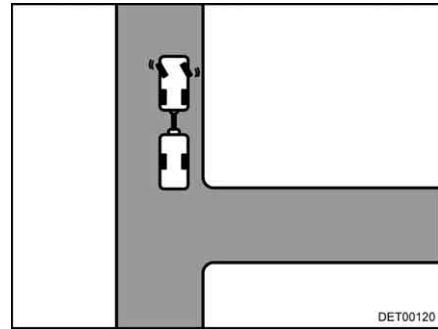

Fig. 17 Steer to the left
- Steer the stationary towing vehicle and trailer to the left (Fig. 17).